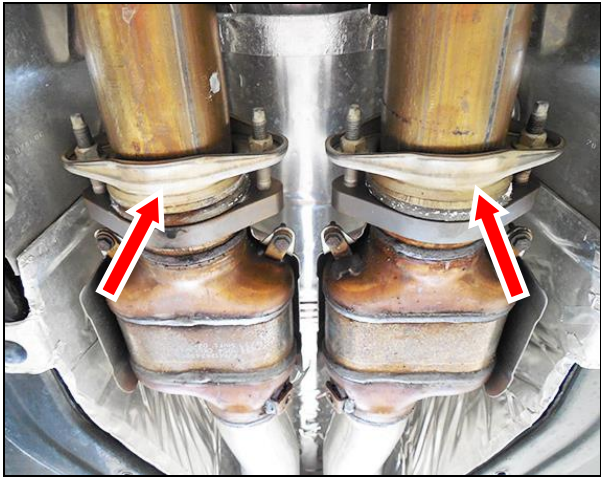
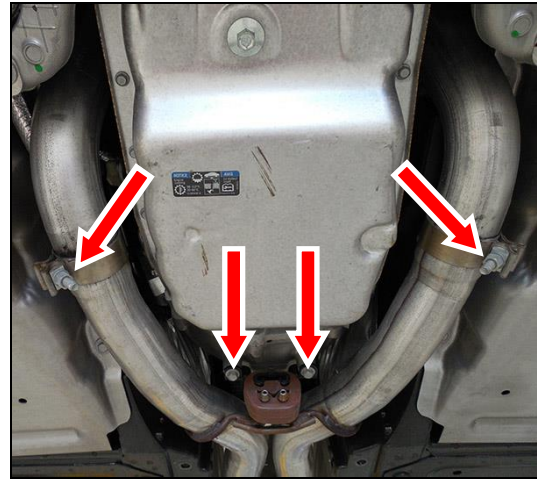

Figure 4
Figure 5
6. Support the X-pipe and remove the (x4) 15mm nuts at the flanges on the down pipes (**Figure 4**). Loosen the 15mm clamp bolts at the slip joint connecting the X-pipe to the over-axle pipes (**Figure 5**). Remove the (x2) 13mm bolts at the center support hanger on the X-pipe (**Figure 5**). Remove the X-pipe from the over-axle pipes.